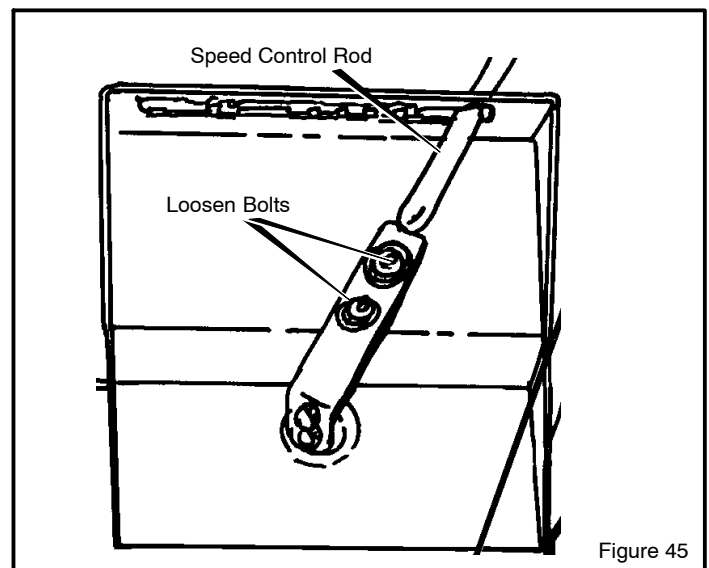

Figure 45
2. Loosen the **bolts** on the **speed control rod** (see Figure 45).
4. Tighten the **bolts** on the **speed control rod** (see Figure 45).